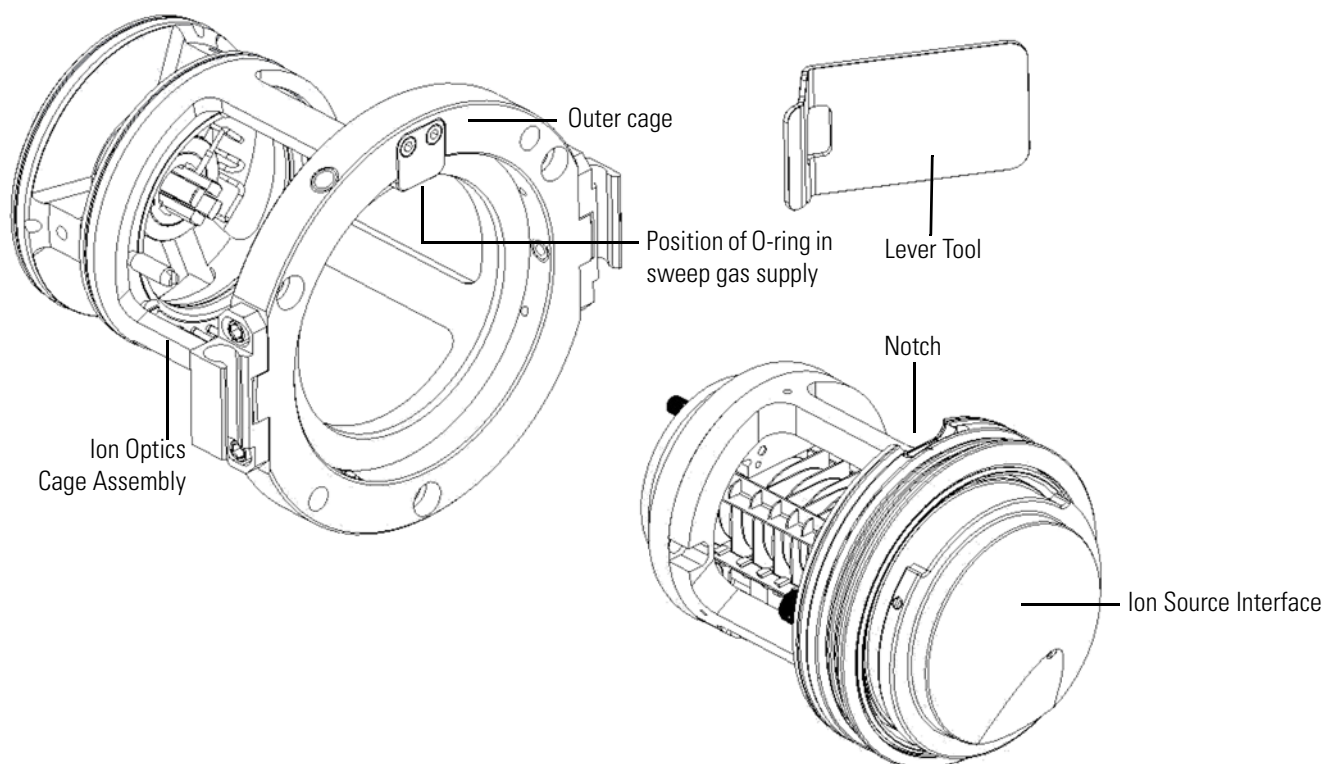

Figure 8-29. Removing the ion source interface
1. Check the position of the little O-ring on the sweep gas supply before inserting the ion source interfaces. See Figure 8-29 on page 8-44. This O-ring sometimes comes out and breaks when you reinstall the ion source interface.